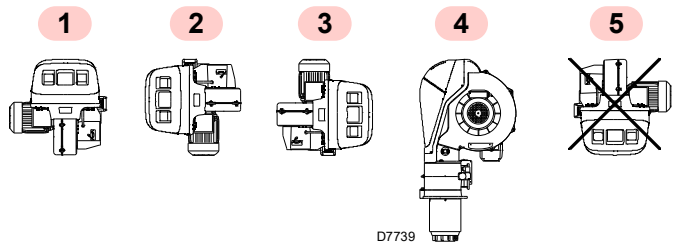

Fig. 14
- The burner is designed to operate only in positions 1, 2, 3 and 4 (Fig. 14).
- Fit the entire burner onto the boiler hole prepared previously (Fig. 14), and fasten with the screws supplied.